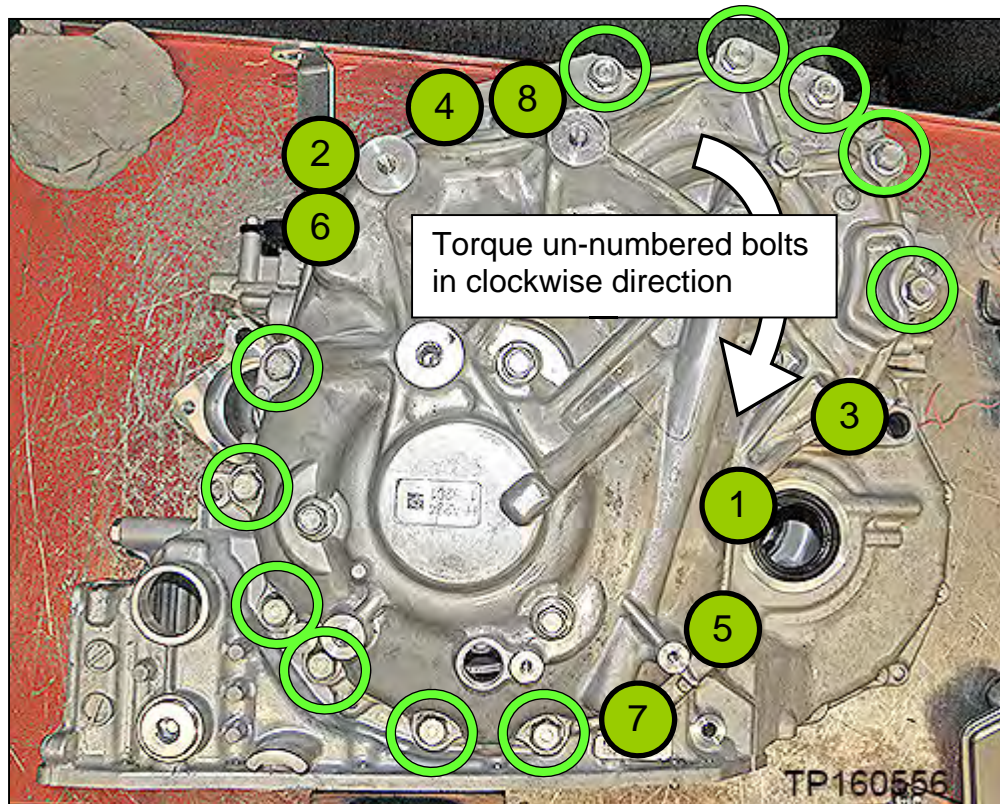

Figure 107
80. Install the new side cover bolts (Figure 107).
- Torque the first eight (8) bolts marked as  in the sequence numbered in Figure 107 below, and then torque the rest of the bolts in a clockwise direction.